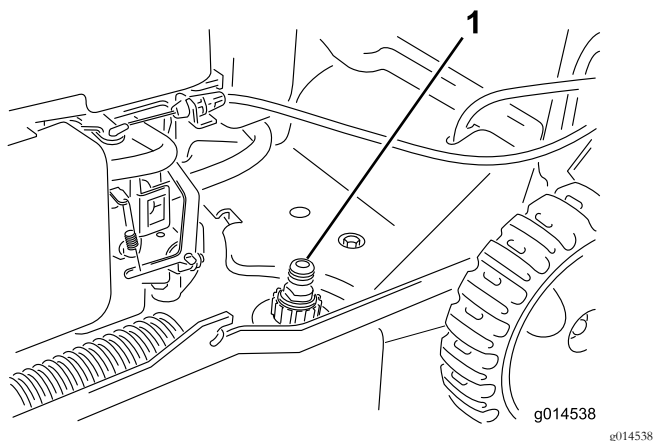

Figure 35
3. Attach a garden hose that is connected to a water supply to the washout port (Figure 35).